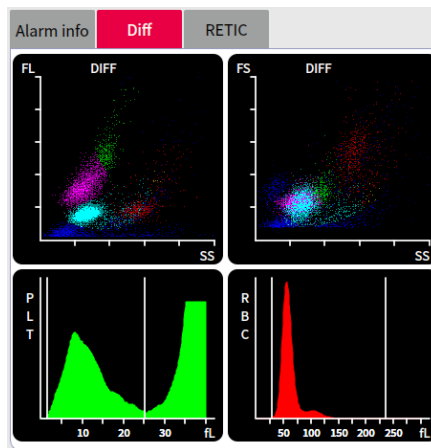

Figure 15 Scatter diagrams
- b. Click 'Diff' to display the differential scatter diagrams and histograms for blood routine, as shown in Figure 15.